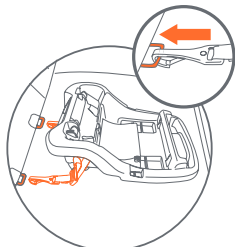

Fig. 49-1
4. Remove the **LATCH** connectors from their storage position inside the base (Fig. 48-1). Place the Base in the rear-facing position in a forward facing vehicle seat as shown in (Fig. 49-1). **The Child must face the rear of the vehicle and Safety Seat must be placed in a vehicle seat that faces forward.**